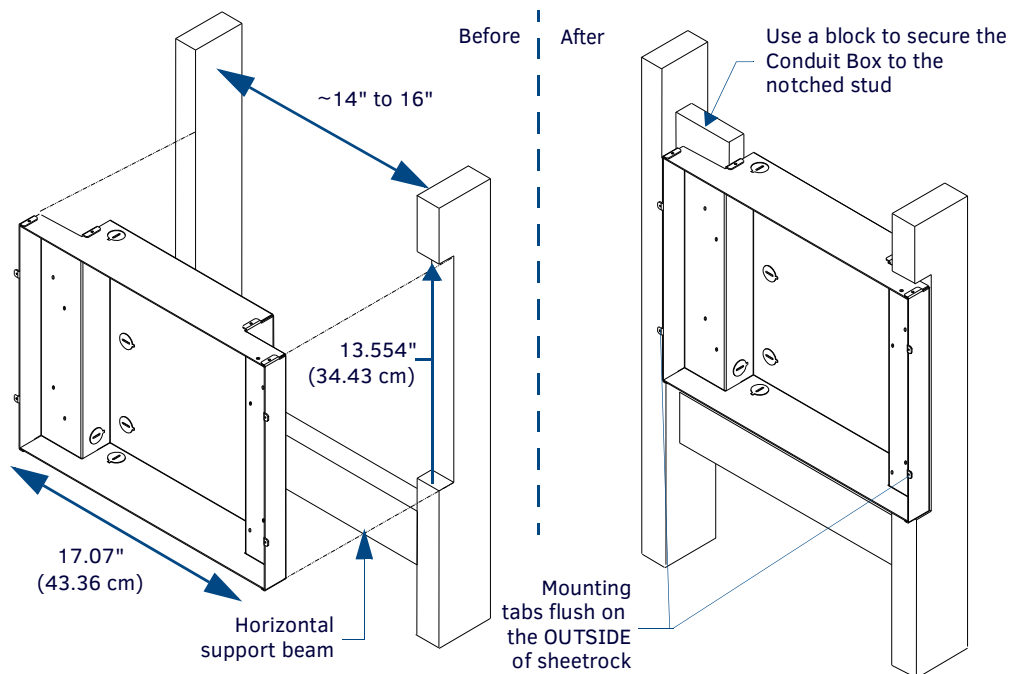

FIG. 54 CB-TP17 conduit box installation into a notched stud (showing before and after installation)
2. Determine whether one or both of the selected stud beams must be notched (FIG. 54). The determining factor is the flush alignment of the mounting tabs along the outside of the **post-wall** sheetrock.
3. Cutout the notched beam using a height of 13.554" (34.43 cm) (as shown below in FIG. 54) and a depth equal to the thickness of the drywall.